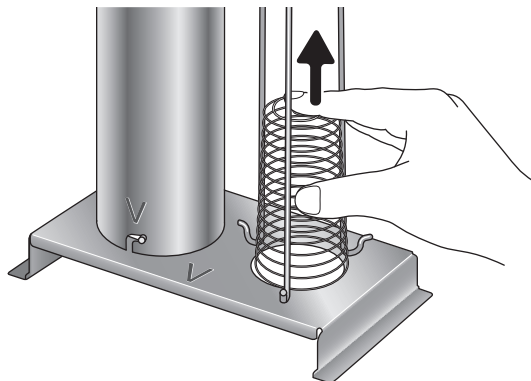

Fig. 7: Re-inserting the springs
- If you have removed the springs for cleaning, compress them again and thread them inside the 3 retaining rods of the grill insert (fig. 7).
When the spring is put back, ensure that its wider end faces the threaded hole of the grill insert (fig. 7). Otherwise, the spring will not be able to expand fully.